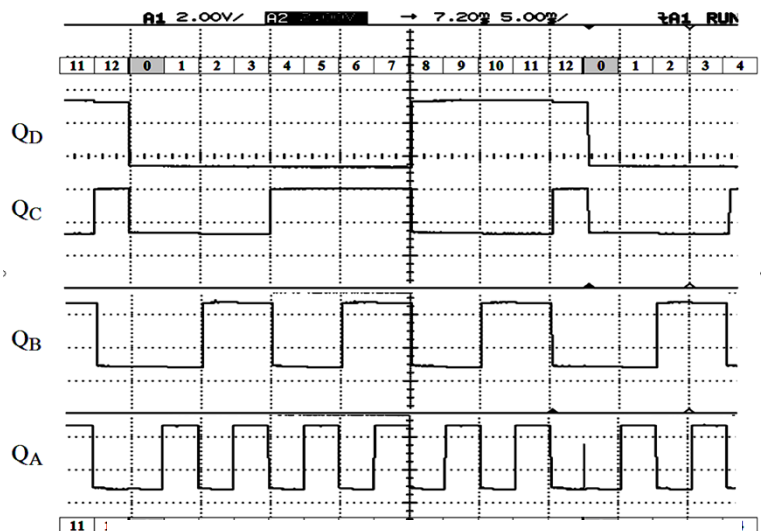

Figure 2.5. Expected waveforms for a mod-13 counter.
The diagram shown in Figure 2.5 is for $N = 13$. The display starts at the left shortly before QD goes low to trigger a new cycle of 13. The count proceeds from 0000 to 1100 (12) for a total of 13 full count periods. It then enters 1101 (13) just long enough to reset itself to 0000 again. In binary, the sequence 12-13-0 looks like $1100 > 1101 > 0000$. Notice that QA (lsb) goes to 1 as the count reaches 13. You can see this in Figure 2.5 at the end of count 12. QA shows a short spike as it brings the count to 13. It rises and then immediately falls, having reset all the Q's, including itself, to 0. This spike is much too narrow to be seen with the scope settings you will be using since it only lasts about 50 nanoseconds. But it is there (it must be, or what else would reset the counter?).
- Answer the following question: for $N = 13$, the count sequence $1100 > 1101 > 0000$ shows why there is a spike in QA in Figure 2.5. For your value of N , take the same approach to show which Q should spike during the reset sequence.